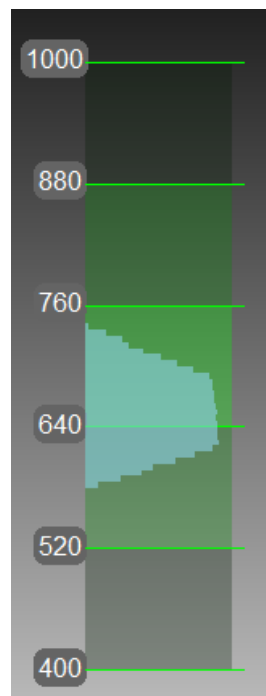

Figure 5.3: Distance meter in *3D View* window showing surfaces that fall within the optimal range for Artec EVA.
- Try to position the scanner as close as possible to the center of the range meter¹ or a little below it (closer to the object; see Figure 5.3)
¹ Technically, the center of the range meter is the center of the depth of view. The 3D scanner has near and far cutting planes (see Figure 3.2) that determine the optimum distance between the scanner and the target object. Artec Studio offers the *Range meter* feature so you can easily visualize the distance between the scanner and the object during the recording process. The *Range meter* comprises a set of semitransparent diagrams located on the left side of the *3D View* window (see Figure 5.3). Each histogram displays the distribution of captured surface points by distance from the scanner. The color corresponds to the set of surfaces from which it was obtained: by default, gray indicates registered key frames, light green indicates the last few frames of a registered sequence, dark green indicates the last successfully registered frame and red indicates a registration error.